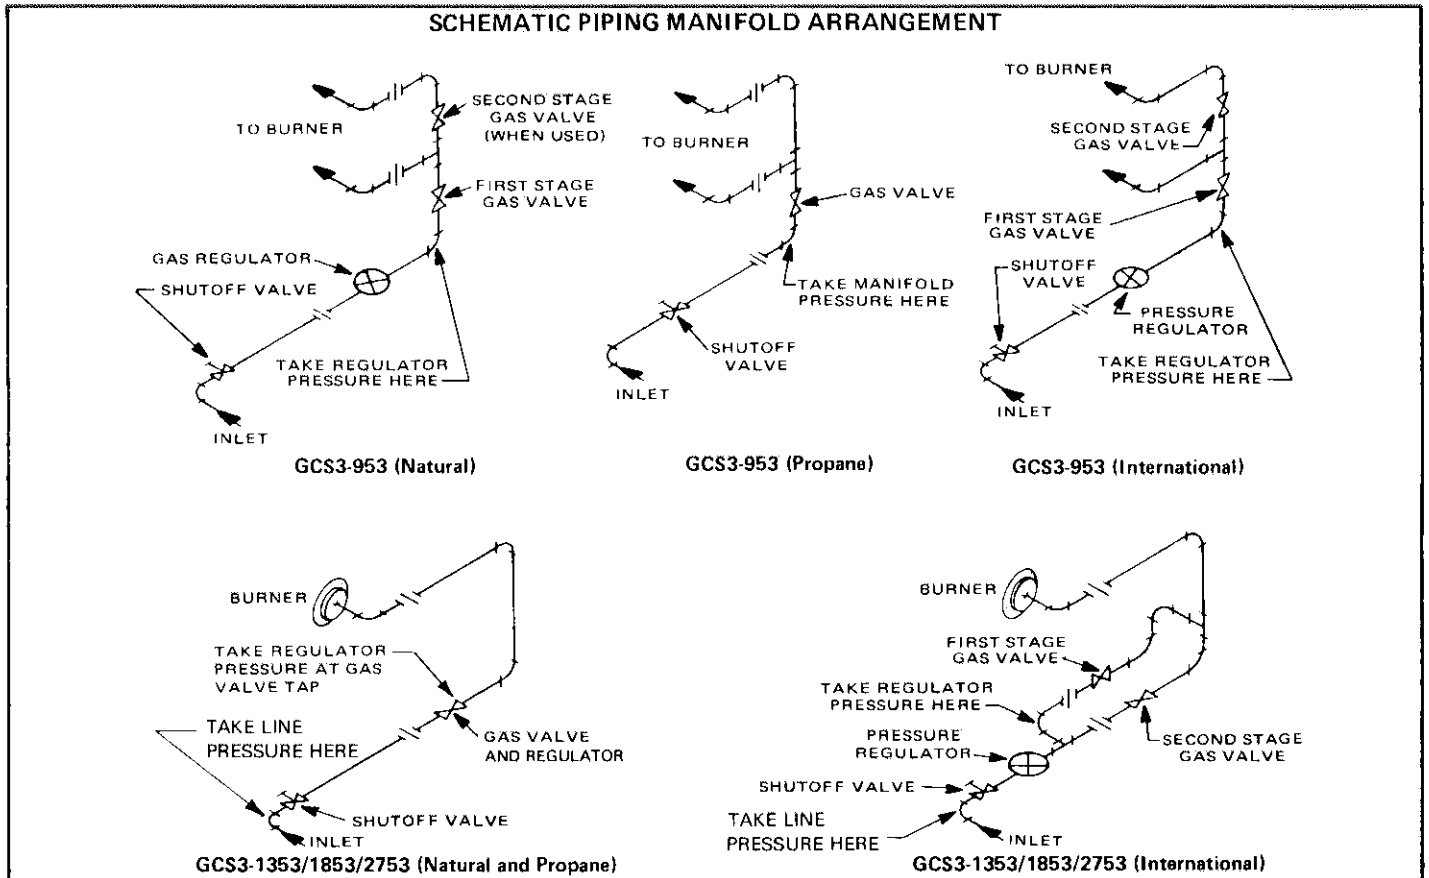

FIGURE 5
- 2 - After line pressure has been checked and adjusted, check manifold or regulator pressure (w.c.) with unit operating on high stage. Refer to Table 2 for correct settings. See manifold schematics in Figure 5 for correct location to take reading.